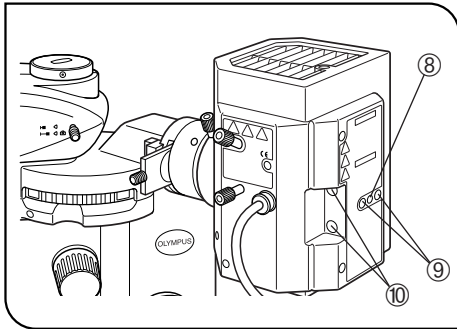

Fig. 16
5. Rotate the burner centering knobs ⑦ to move the arc images on the 45° position on the top right (or bottom left) of the illumination field. (B)
6. Insert the Allen screwdriver into the mirror focusing screw ⑧ (Fig. 16) and turn the screw to focus on the mirror arc image. (C)
7. Rotate the burner centering knobs ⑦ to overlap the arc image with the mirror arc image. (D)